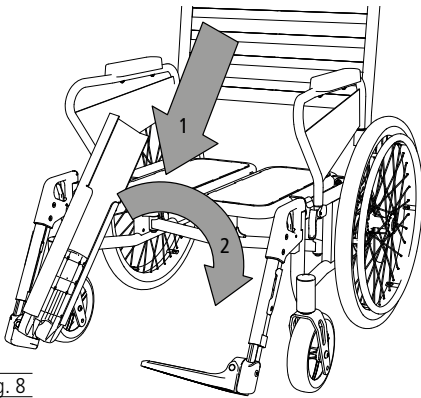

Fig. 8
2. Place the footplate completely on the up-turned footplate (1, Fig. 8) and then swing the footboard down (2, Fig. 8) until the recess on the opposite side completely covers the footplate.